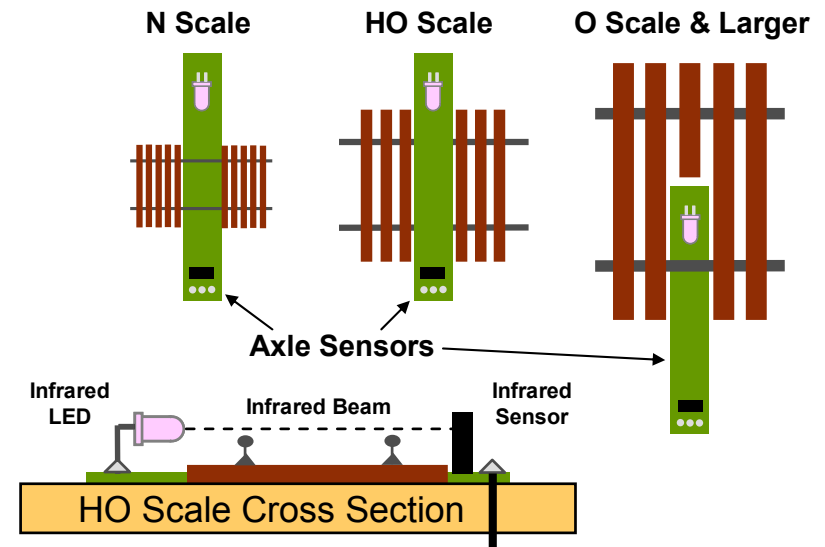

Figure 1: Axle Sensor Alignment
- a. Refer to **Figure 1** for correct Axle Sensor positioning for your scale.
- b. Refer to **Figure 1** for correct Axle Sensor positioning for your scale.
- d. Drill a 1/4" hole in the roadbed beneath the track and partially or completely across the rails as in **Figure 1**.
5. Align the LED to just clear the top of the rail as in the "HO Scale Cross Section" of **Figure 1**. Check that rail cars clear the Axle Sensor.
If axle count is not correct, check the alignment of the “W” Axle Sensor. The infrared beam should just clear the railhead as in **Figure 1**.
If you do not receive a speed or length report, check the alignment of the “S” Axle Sensor. The infrared beam should just clear the railhead as in **Figure 1**. Also check your wiring.